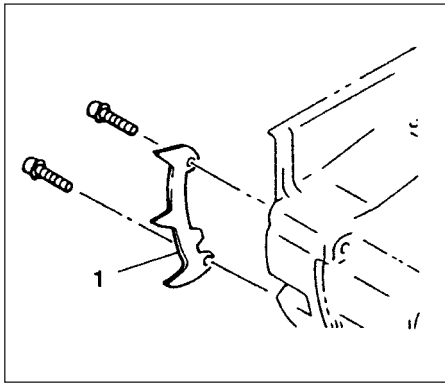

Fig.1-0
* Install the spiked bumper (1) (if so equipped) to the unit with the two screws. (Fig.1-0)